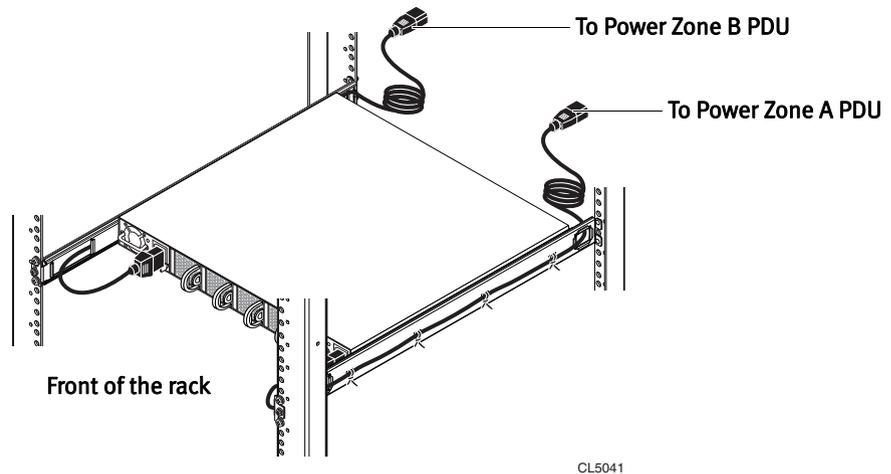

Figure 85 Plugging the switch power cords into the switch
- At the front of the rack, feed the female end of each switch power cord through the large hole in each rail assembly, and plug the cord into a power connector on the switch (Appendix F Figure 85).